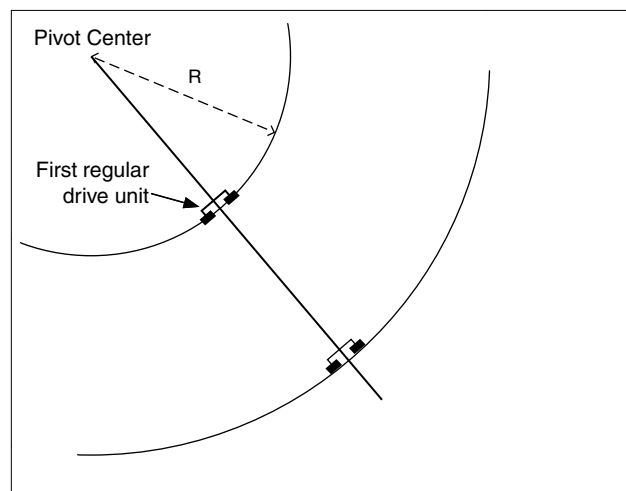

Figure 36-3
6. Measure the distance in feet from the center of the pivot to the center line of the tire on the first regular drive unit. This distance is R. Refer to Figure 36-3.